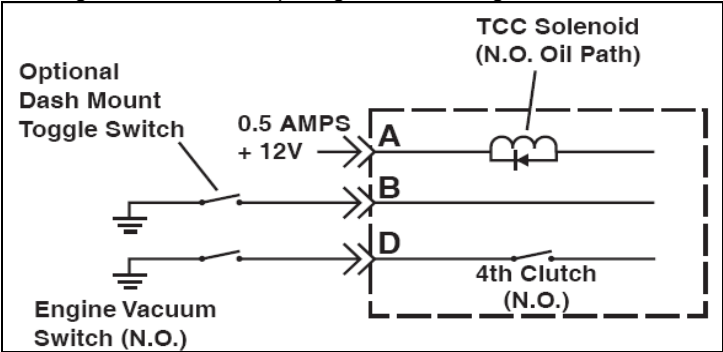
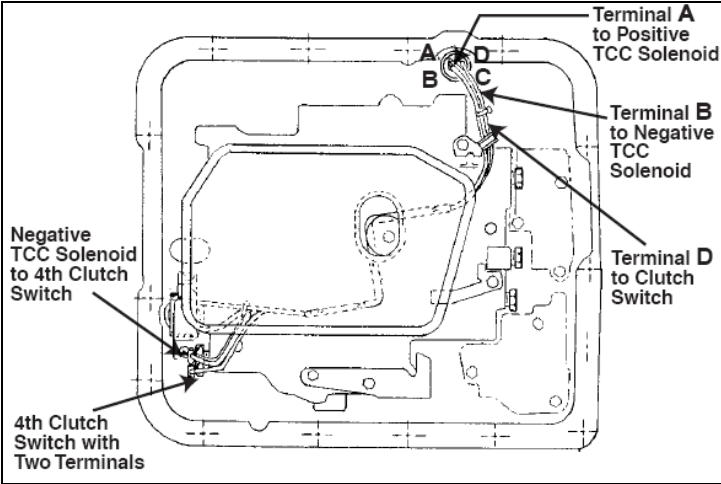

Figure 6
Figure 7
Step 13 Installation of TCI® Wiring Harness for torque converter lock up (**See Figure 6 and Figure 7**). Most applications will accept the OE solenoid. All two wire solenoids are acceptable. If you have a solenoid with only one wire, it cannot be used. You may purchase the proper solenoid from TCI® or from a GM dealer (part number 8654126). Using your OE solenoid with two wires, cut both wires allowing about 2-1/2" for splicing to TCI® wiring harness.
Step 14 External Wiring Instructions. Using 18 gauge wire run a 12 volt source to Terminal A (red). Terminal D (black) will need to be grounded (use 18 gauge wire). The TCC is now set to engage automatically in 4th gear only. The converter clutch will release when the transmission is downshifted out of 4th gear. **If you desire more control over the TCC you have two options. Option 1** will allow you to lock up the torque converter in 2nd, 3rd and/or 4th by running wire B (green) to a ground dash mounted toggle switch. **Option 2** is for drivers that may want to shut down the TCC system completely. You will need to only run the 12 volt source through a second dash mounted toggle switch. Now you may manually turn the lock up system on and off (**See Wiring Figure 6**). **Note:** Terminal A must be connected for lock up function Terminal B does not.